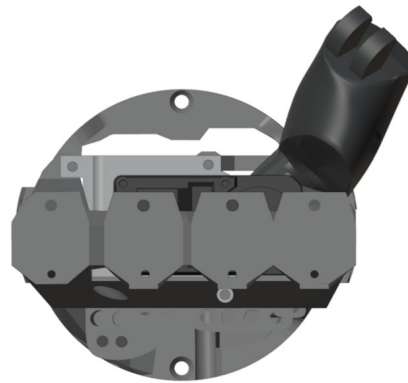

Figure 5.10: Thumb rotation servo motor registration
2. Rotate the plate until the hole with the bolt is at the bottom right (figure 5.10).
The servo motors are connected to the logic board in a daisy chain, see figures 5.10 and 5.11.